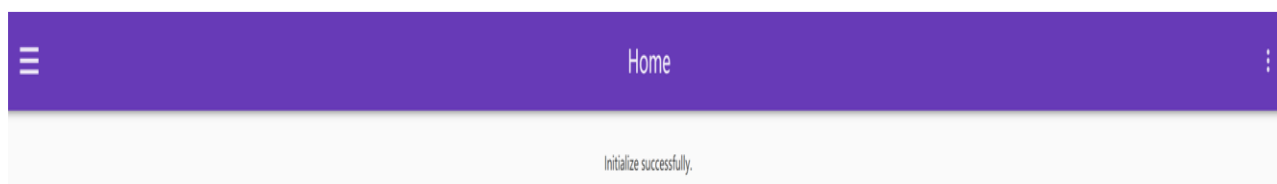

Figure 4. Initialization Successful Interface
9.5.1.4. Click “Initialize”. The initialization takes about 2 min. If Initialize successfully is displayed (as shown in following figure 4, the device is connected successfully, and you can go to the next step